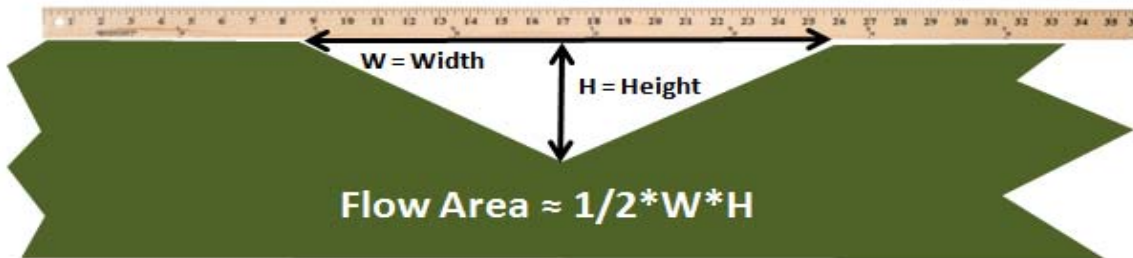

Figure 1 Simple Method Flow Area Calculation
Step 2: Where flow exits the site determine existing flow area of the exiting drainage channels on your site using the schematic and equation below in Figure 1. Mark on the plans where flow area was determined.
Step 3: Once flow area has been calculated, determine the impervious area (IA) of the project and the nearest lot area to determine the required flow area for your site.